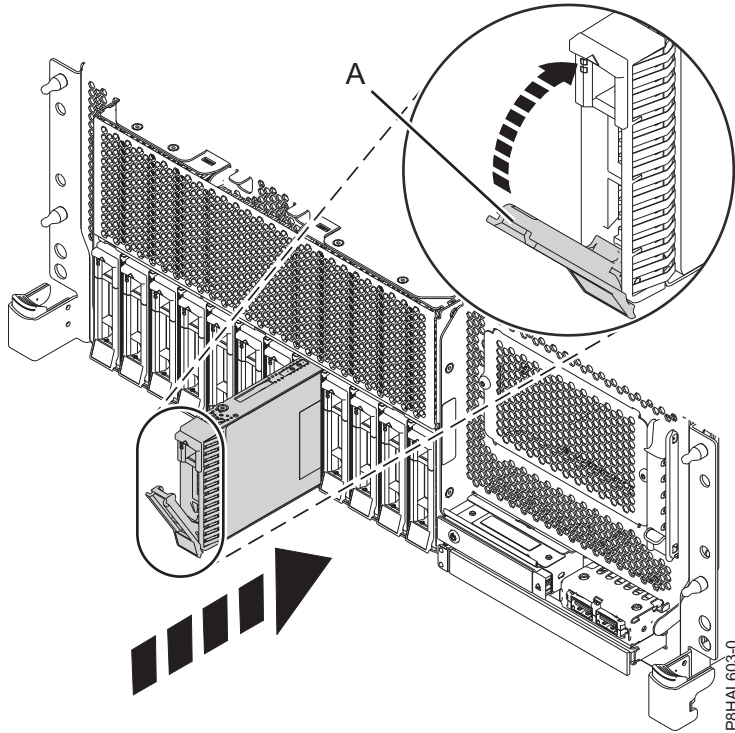

Figure 34. Installing a disk drive in a rack-mounted base function system
4. Unlock the drive bay handle (A) by pressing it and pulling it out toward you. If the handle is not all the way out, the drive does not slide into the system. See Figure 34 on page 40, Figure 35 on page 40, Figure 36 on page 41, and Figure 37 on page 42.
9. When the identify LED turns on solid, slide the drive all the way into the system, and push in the drive handle (A) until it locks, as shown in Figure 34 on page 40, Figure 35 on page 40, Figure 36 on page 41, and Figure 37 on page 42.